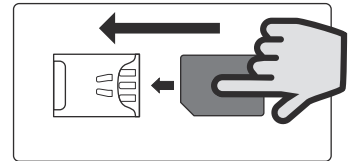
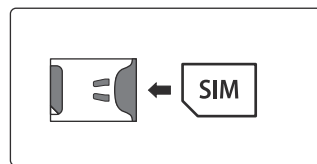

Fig. 53
Fig. 54
2. Carefully, using your index finger, guide the nano SIM left, see **Fig.53**, into the SIM holder, see **Fig.54**.